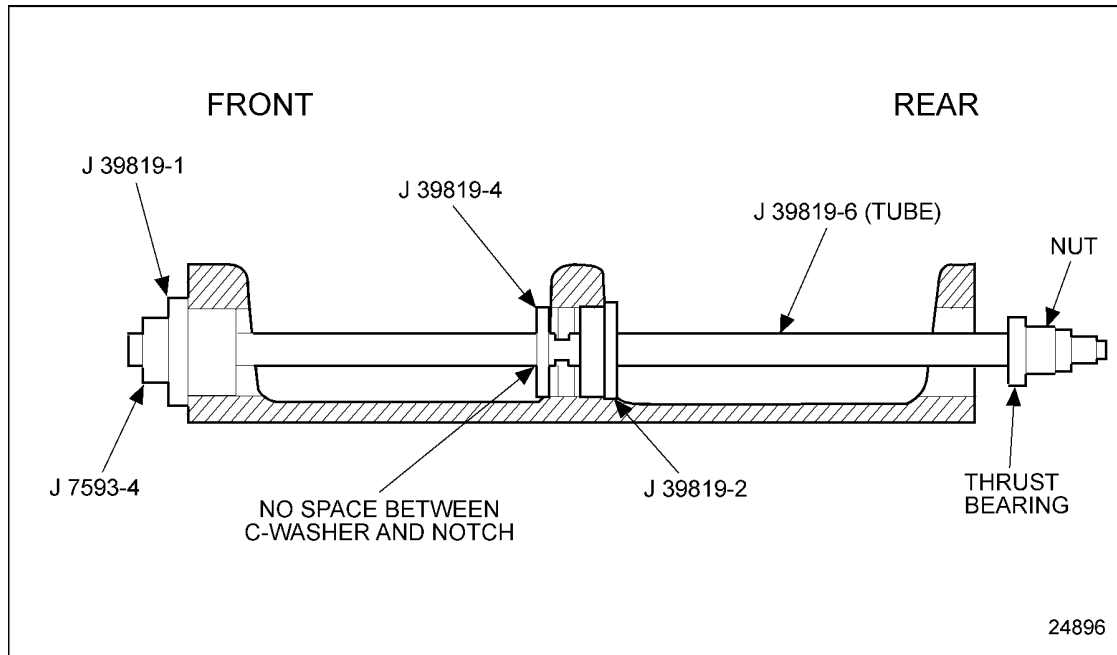

Figure 1-378 Install Center Bushings
1. Place bushing installer J 39819-1 and C-washer J 7593-4 onto the end of shaft J 39819-5 and insert the shaft half way through the cradle from the front. See Figure 1-378.